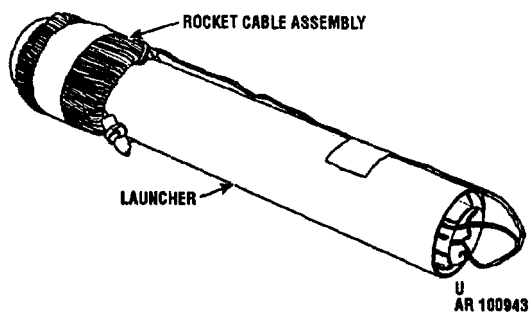

Figure 2-65. Launcher with cable assembly attached to rocket.
(7) Remove tape and unwind cable assembly (fig. 2-65).
(8) Position rocket cable assembly for connecting to firing device, approximately same distance as between launcher and target impact point.